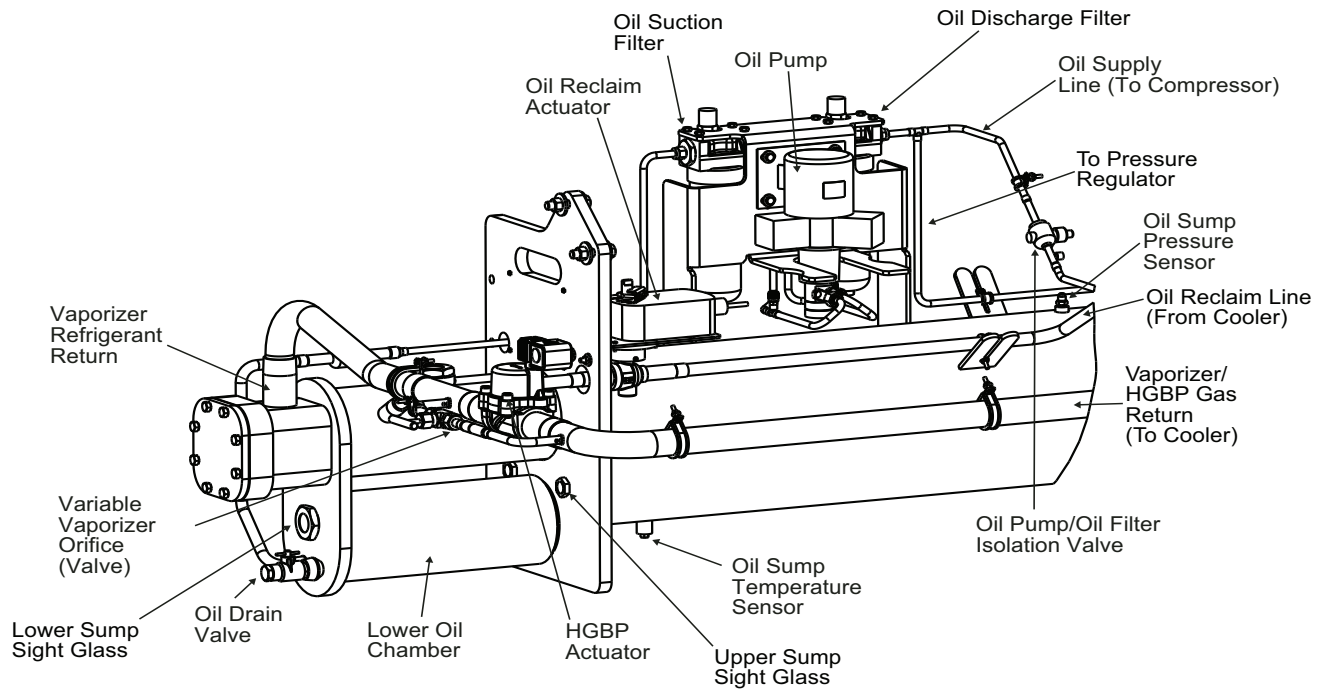

Fig. 52 — 1-Piece Vaporizer Oil Management System
2. Close both oil filter isolation valves. See Fig. 52.
Inspect the oil heater for carbon build-up on the heating element if an adequate oil sump temperature cannot be maintained when the chiller is shut down. It may be necessary to temporarily install the heater element terminal cover to provide additional leverage while threading the oil heater into the sump. The sump oil heater elements must be positioned vertically to allow proper heat convection. See Fig. 52 and 53. The heater element must be installed with the word “TOP” on the threaded fitting facing upward.
For the two-piece vaporizer, there is a metering orifice where the refrigerant return line attaches to the vaporizer (see Fig. 52). This orifice can only be inspected by cutting the vaporizer refrigerant return line near the vaporizer. This orifice should be inspected if hot condenser gas flow through the vaporizer appears to be obstructed. For the single-piece vaporizer, the orifice has been moved outside the vaporizer in the gas return line to the cooler. This orifice is variable (see Fig 52).